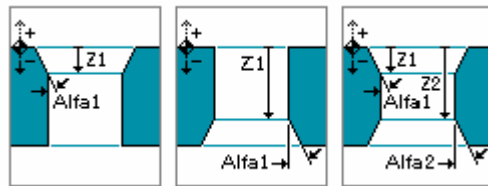

figure 1
- Define the sort of collar machining (see fig. 1)
The upper plane is at Z=0. From here the position in -Z1 is given to locate the programmed (cylindrical) geometry. For two machining collars the position in Z1 is always the same for both machinings and it's the height where the cylindrical machining (LC2) ends. See fig.1.